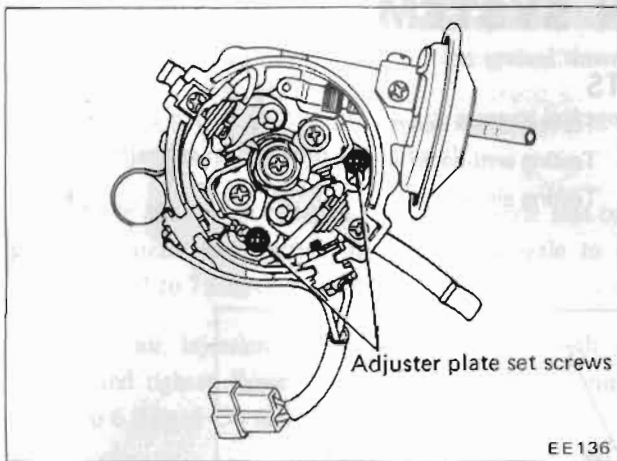

Fig. ET-41 Adjuster plate set screws
(1) Referring to Figure ET-41, turn out adjuster plate set screw 1/2 to 2 turns. The screw is located at contact set on retard side.
(2) Using a notch in adjuster plate as a hold, turn adjuster plate as required until correct delay is obtained. Ignition is retarded when plate is turned counterclockwise.